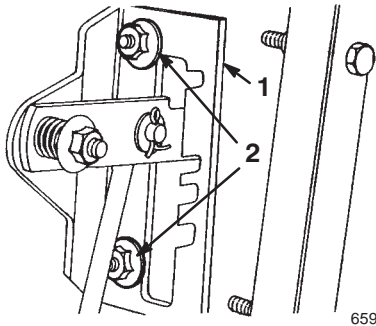
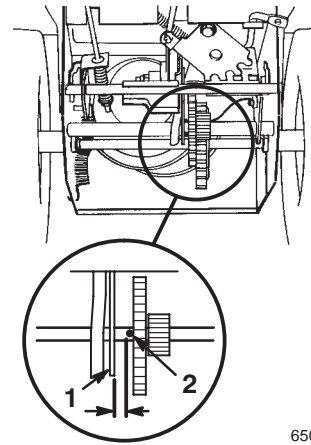

Figure 22
Figure 23
5. Loosen the flange nuts that secure the selector plate to the control panel (Fig. 22).
Note: The drive assembly should be 1/8 inch (3 millimeters) from the roll pin; if not, slide the selector plate (Fig. 22) until the gap is 1/8 inch (3 millimeters); refer to Figure 23.